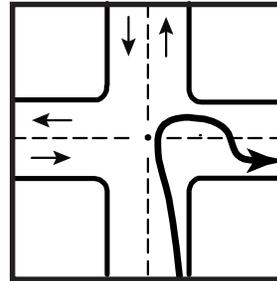

Figure 2-8
- If you are driving a truck or bus that cannot make the right turn without swinging into another lane, turn wide as you **complete** the turn, as shown in Figure 2-8. Keep the rear of your vehicle close to the curb.